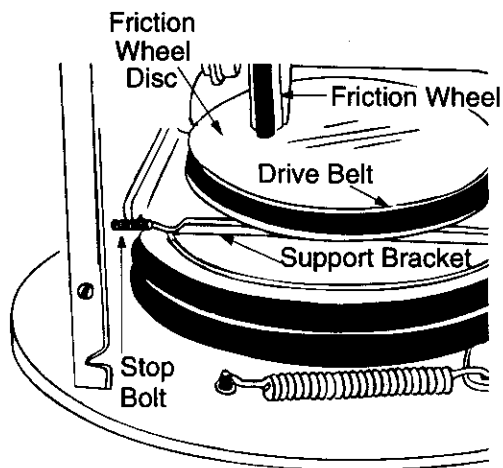

Figure 28
3. Using a wrench, loosen the nut on the stop bolt until the support bracket rests on the auger pulley. See Figure 28.
4. Slip belt between friction wheel and friction wheel disc. See Figure 28. Remove and replace belt. Reassemble following the instructions in reverse order.
**NOTE:** The support bracket must rest on the stop bolt after the new belt has been assembled. See Figure 28.